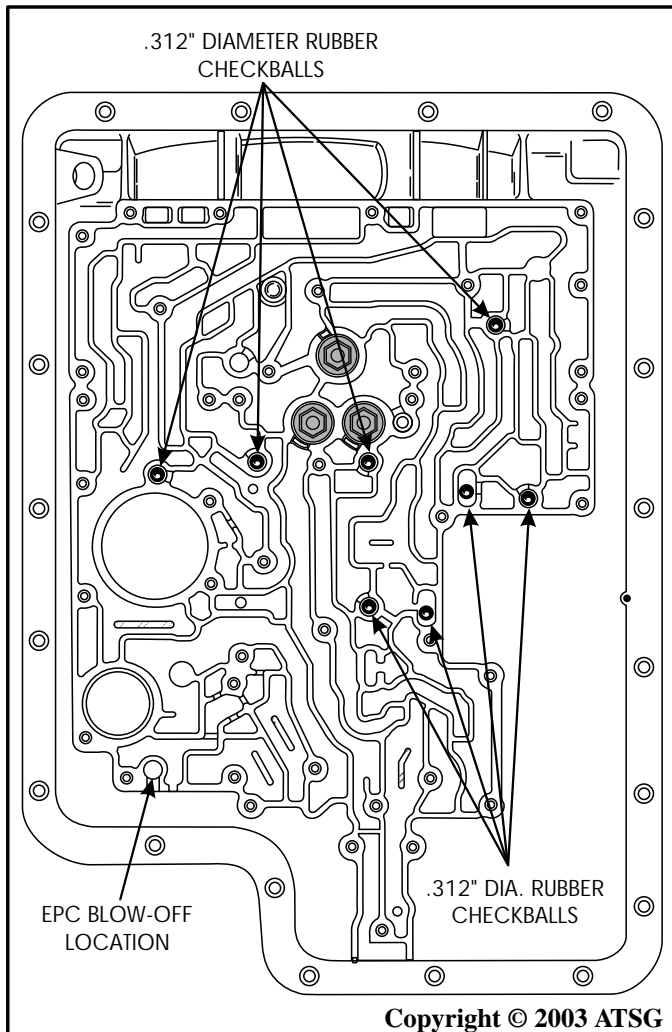

Figure 188
1. Install eight (8) 5/16" diameter checkballs in their case pockets, as shown in Figure 188.
2. Install EPC blow-off spring and .250" diameter steel ball on top of spring, in location shown in Figures 188 and 189.